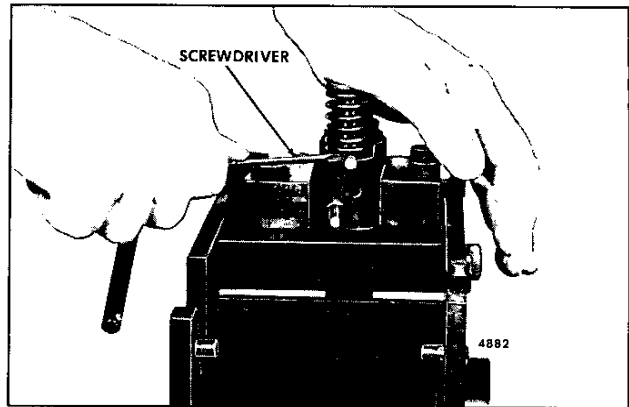

Fig. 11 – Removing Injector Follower Stop Pin
2. Compress the follower spring (Fig. 11). Then, raise the spring above the stop pin with a screwdriver and withdraw the pin. Allow the spring to rise gradually.